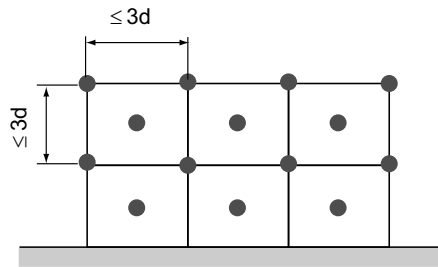
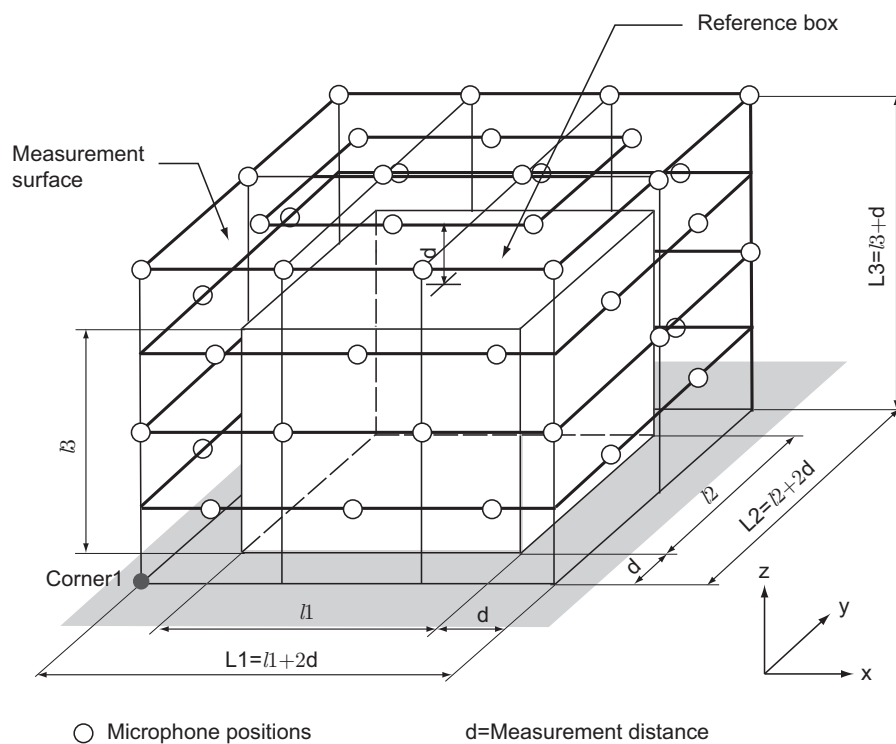
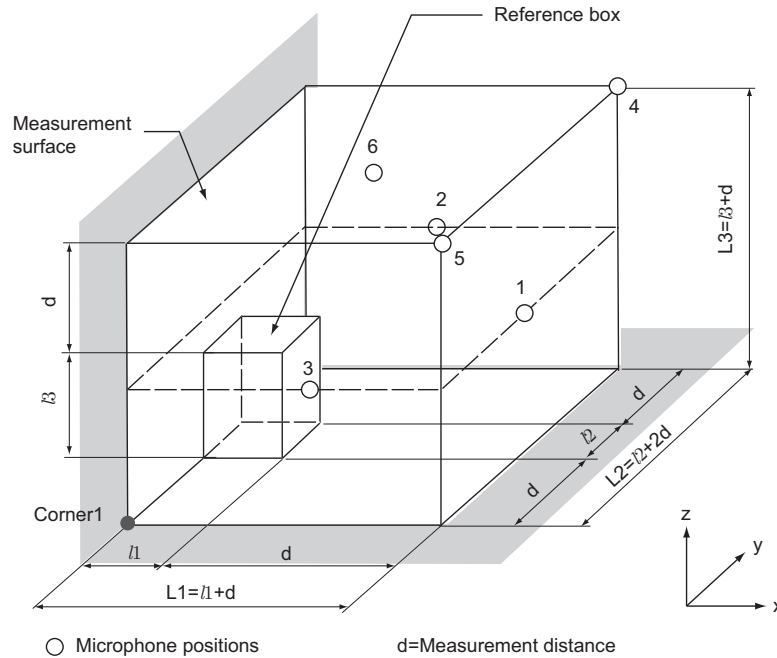
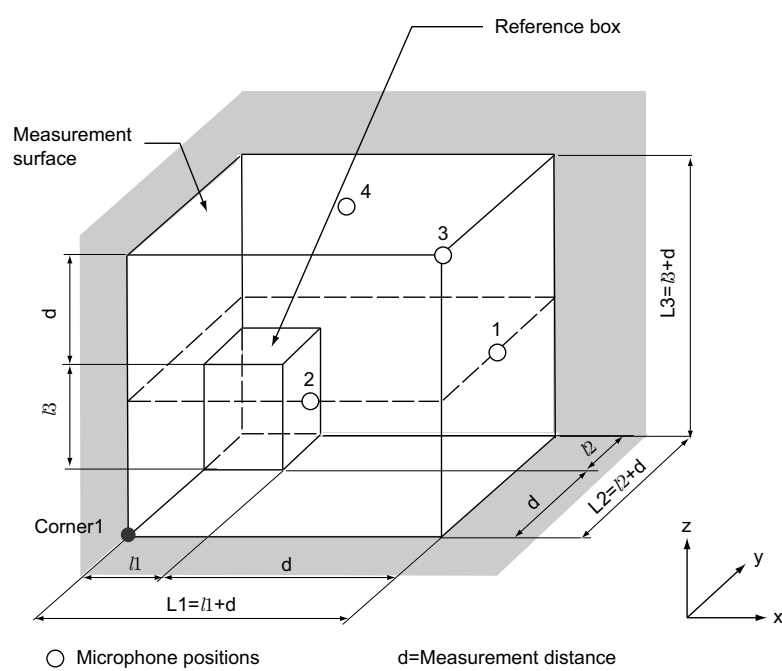

Figure 7.37: ISO3744 - Procedure for fixing microphone positions on a parallelepiped measurement surface.
Figure 7.38: ISO3744 - Parallelepiped measurement surface with microphone positions.
Figure 7.39: ISO3744 - Parallelepiped measurement surface with microphone positions for a source placed on the floor against a wall.
Figure 7.40: ISO3744 - Parallelepiped measurement surface with microphone positions for a source placed on the floor against two walls.
Figure 7.38 shows a parallelepiped measurement surface whose sides are parallel to those of the reference box. Click on the **Suggest** button to auto fill the measurement surface variables in agreement with the standard. Verify the input you have entered by clicking on the **Check** button. *Coustyx* checks to see if the input variables satisfy the standard requirements. If the standard requirements are not met, a message window pops up to help you make appropriate corrections.
X-Axis Specify the orientation of the X-axis here. See Figure 7.38 for definition.
Y-Axis Specify the orientation of the Y-axis here. See Figure 7.38 for definition.
Corner1 Specify Corner1 of the parallelepiped surface here. See Figure 7.38 for definition.
L1 Length of the parallelepiped in X-direction (Figure 7.38). Specify the value of $L1$ such that it satisfies the definition, $L1 = l1 + 2d$, where $l1$ is the reference box dimension in X-direction, and d is the measurement distance. The recommended value for $d = 1\text{ m}$.
L2 Length of the parallelepiped in Y-direction (Figure 7.38). Specify the value of $L2$ such that it satisfies the definition, $L2 = l2 + 2d$, where $l2$ is the reference box dimension in Y-direction, and d is the measurement distance. The recommended value for $d = 1\text{ m}$.
L3 Length of the parallelepiped in Z-direction (Figure 7.38). Specify the value of $L3$ such that it satisfies the definition, $L3 = l3 + d$, where $l3$ is the reference box dimension in Z-direction, and d is the measurement distance. The recommended value for $d = 1\text{ m}$.
N1 Number of subdivisions in X-direction (Figure 7.38). Select the value of $N1$ such that the length of the rectangular partial area formed by these subdivisions satisfies the criterion: $\frac{L1}{N1} \leq 3d$, where $L1$ is the length of parallelepiped in X-direction, and d is the measurement distance. Refer Figure 7.37. The microphone positions are in the center of each partial area and at each corner of the partial area (excluding the corners intruding into reflecting planes).
N2 Number of subdivisions in Y-direction (Figure 7.38). Select the value of $N2$ such that the length of the rectangular partial area formed by these subdivisions satisfies the
criterion: $\frac{L2}{N2} \leq 3d$, where $L2$ is the length of parallelepiped in Y-direction, and d is the measurement distance. Refer Figure 7.37. The microphone positions are in the center of each partial area and at each corner of the partial area (excluding the corners intruding into reflecting planes).
- N3** Number of subdivisions in Z-direction (Figure 7.38). Select the value of $N3$ such that the length of the rectangular partial area formed by these subdivisions satisfies the criterion: $\frac{L3}{N3} \leq 3d$, where $L3$ is the length of parallelepiped in Z-direction, and d is the measurement distance. Refer Figure 7.37. The microphone positions are in the center of each partial area and at each corner of the partial area (excluding the corners intruding into reflecting planes).
Parallelepiped against wall Use this measurement surface when the source under test is placed on a floor against a wall. Figure 7.39 shows a parallelepiped measurement surface whose sides are parallel to those of the reference box. Click on the **Suggest** button to auto fill the measurement surface variables in agreement with the standard. Verify the input you have entered by clicking on the **Check** button. *Coustyx* checks to see if the input variables satisfy the standard requirements. If the standard requirements are not met, a message window pops up to help you make appropriate corrections.
X-Axis Specify the orientation of the X-axis here. See Figure 7.39 for definition.
Y-Axis Specify the orientation of the Y-axis here. See Figure 7.39 for definition.
Corner1 Specify Corner1 of the parallelepiped surface here. See Figure 7.39 for definition. The parallelepiped is constructed using Corner1 as the starting point and $L1$, $L2$, $L3$ as its dimensions along X, Y, Z-axis respectively.
- L1** Length of the parallelepiped in X-direction (Figure 7.39). Specify the value of $L1$ such that it satisfies the definition, $L1 = l1 + d$, where $l1$ is the reference box dimension in X-direction, and d is the measurement distance. The recommended value for $d = 1\text{ m}$.
- L2** Length of the parallelepiped in Y-direction (Figure 7.39). Specify the value of $L2$ such that it satisfies the definition, $L2 = l2 + 2d$, where $l2$ is the reference box dimension in Y-direction, and d is the measurement distance. The recommended value for $d = 1\text{ m}$.
- L3** Length of the parallelepiped in Z-direction (Figure 7.39). Specify the value of $L3$ such that it satisfies the definition, $L3 = l3 + d$, where $l3$ is the reference box dimension in Z-direction, and d is the measurement distance. The recommended value for $d = 1\text{ m}$.
- N1** Number of subdivisions in X-direction (Figure 7.39). Select the value of $N1$ such that the length of the rectangular partial area formed by these subdivisions satisfies the criterion: $\frac{L1}{N1} \leq 3d$, where $L1$ is the length of parallelepiped in X-direction, and d is the measurement distance. Refer Figure 7.37. The microphone positions are in the center of each partial area and at each corner of the partial area (excluding the corners intruding into reflecting planes).
- N2** Number of subdivisions in Y-direction (Figure 7.39). Select the value of $N2$ such that the length of the rectangular partial area formed by these subdivisions satisfies the criterion: $\frac{L2}{N2} \leq 3d$, where $L2$ is the length of parallelepiped in Y-direction, and d is the measurement distance. Refer Figure 7.37. The microphone positions are in the center of each partial area and at each corner of the partial area (excluding the corners intruding into reflecting planes).
N3 Number of subdivisions in Z-direction (Figure 7.39). Select the value of $N3$ such that the length of the rectangular partial area formed by these subdivisions satisfies the criterion: $\frac{L3}{N3} \leq 3d$, where $L3$ is the length of parallelepiped in Z-direction, and d is the measurement distance. Refer Figure 7.37. The microphone positions are in the center of each partial area and at each corner of the partial area (excluding the corners intruding into reflecting planes).
Parallelepiped against corner Use this measurement surface when the source under test is placed on a floor against two walls. Figure 7.40 shows a parallelepiped measurement surface whose sides are parallel to those of the reference box. Click on the **Suggest** button to auto fill the measurement surface variables in agreement with the standard. Verify the input you have entered by clicking on the **Check** button. *Coustyx* checks to see if the input variables satisfy the standard requirements. If the standard requirements are not met, a message window pops up to help you make appropriate corrections.
X-Axis Specify the orientation of the X-axis here. See Figure 7.40 for definition.
Y-Axis Specify the orientation of the Y-axis here. See Figure 7.40 for definition.
Corner1 Specify Corner1 of the parallelepiped surface here. See Figure 7.40 for definition. The parallelepiped is constructed using Corner1 as the starting point and $L1$, $L2$, $L3$ as its dimensions along X, Y, Z-axis respectively.
- L1** Length of the parallelepiped in X-direction (Figure 7.40). Specify the value of $L1$ such that it satisfies the definition, $L1 = l1 + d$, where $l1$ is the reference box dimension in X-direction, and d is the measurement distance. The recommended value for $d = 1\text{ m}$.
- L2** Length of the parallelepiped in Y-direction (Figure 7.40). Specify the value of $L2$ such that it satisfies the definition, $L2 = l2 + 2d$, where $l2$ is the reference box dimension in Y-direction, and d is the measurement distance. The recommended value for $d = 1\text{ m}$.
- L3** Length of the parallelepiped in Z-direction (Figure 7.40). Specify the value of $L3$ such that it satisfies the definition, $L3 = l3 + d$, where $l3$ is the reference box dimension in Z-direction, and d is the measurement distance. The recommended value for $d = 1\text{ m}$.
- N1** Number of subdivisions in X-direction (Figure 7.40). Select the value of $N1$ such that the length of the rectangular partial area formed by these subdivisions satisfies the criterion: $\frac{L1}{N1} \leq 3d$, where $L1$ is the length of parallelepiped in X-direction, and d is the measurement distance. Refer Figure 7.37. The microphone positions are in the center of each partial area and at each corner of the partial area (excluding the corners intruding into reflecting planes).
- N2** Number of subdivisions in Y-direction (Figure 7.40). Select the value of $N2$ such that the length of the rectangular partial area formed by these subdivisions satisfies the criterion: $\frac{L2}{N2} \leq 3d$, where $L2$ is the length of parallelepiped in Y-direction, and d is the measurement distance. Refer Figure 7.37. The microphone positions are in the center of each partial area and at each corner of the partial area (excluding the corners intruding into reflecting planes).